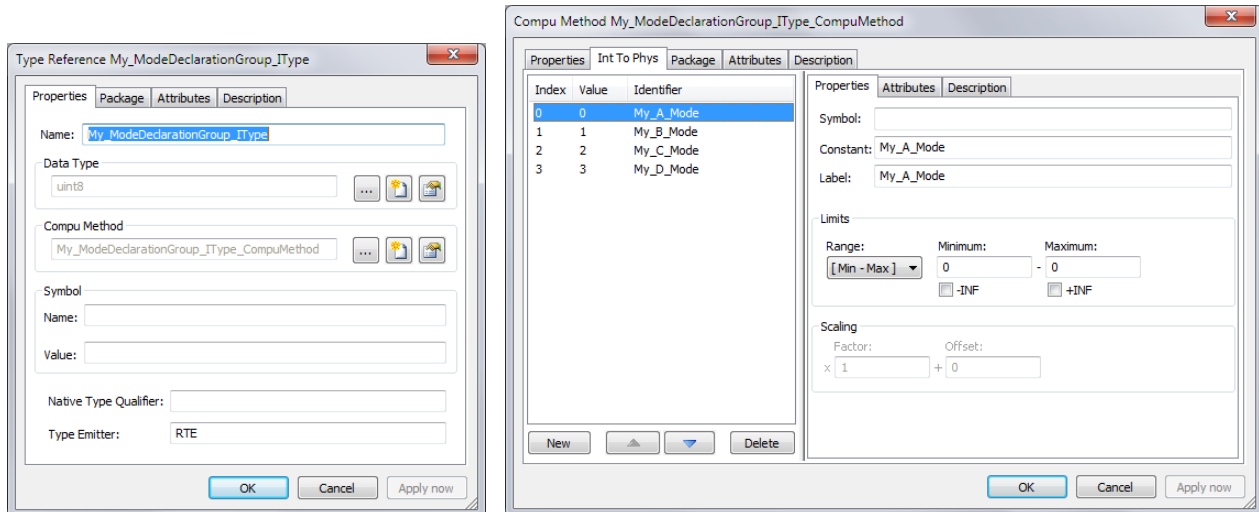

Figure 4-49 My_ModeDeclarationGroup_IType
- ▶ It contains a compu method which defined an enumeration of the 4 modes from `My_ModeDeclatationGroup`. The same strings shall be used. See Figure 4-49.